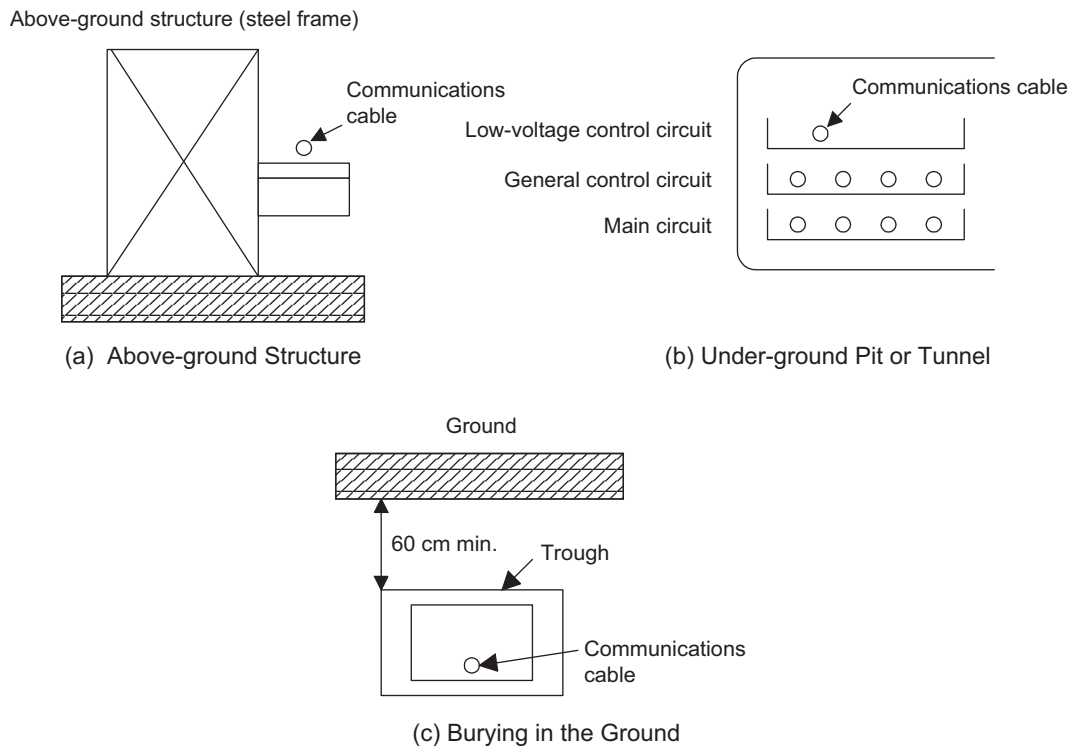

Fig. D.11 Laying Cables between Buildings
- For outdoor wiring, always lay the communications cables along an above-ground structure such as steel frames (see *Fig. D.11 (a)* below).
- Where there is no above-ground structure, house the communications cables in an underground pit or tunnel, or bury them in the ground (see *Fig. D.11 (b)* and *(c)* below).